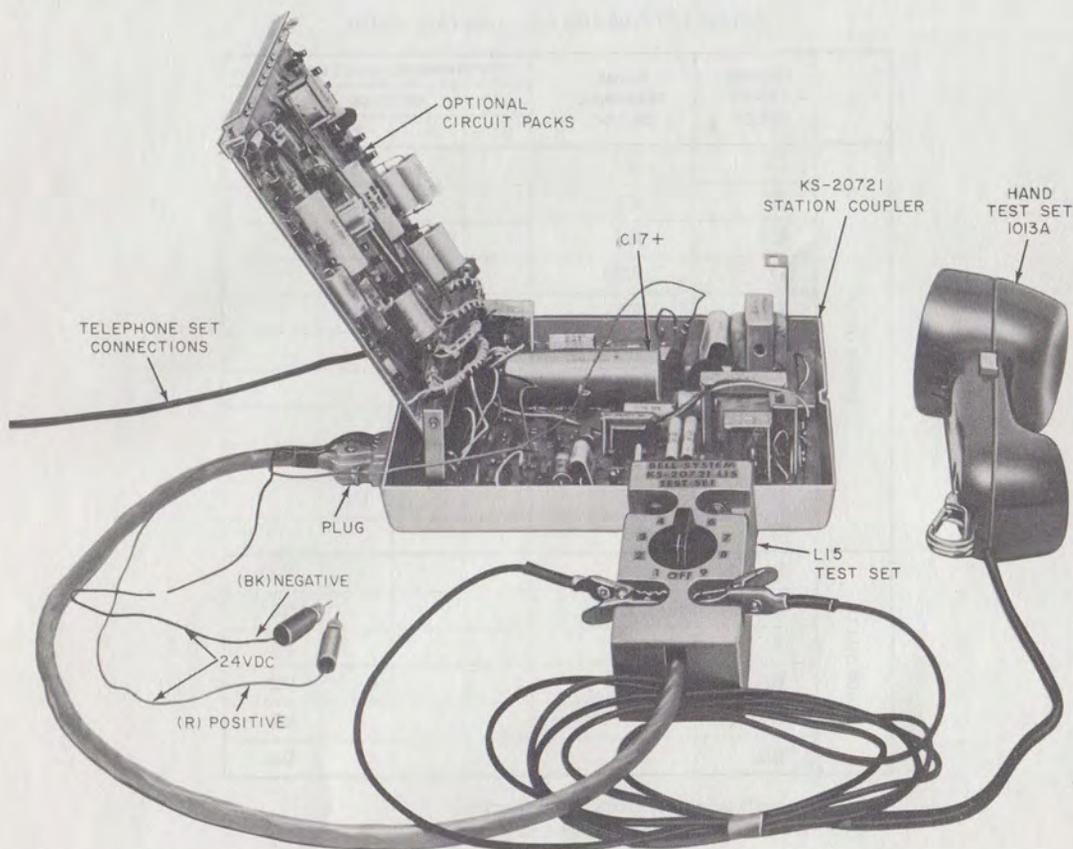

Fig. 5—KS-20721 Station Coupler with KS-20721, List 15 Test Set and 1013A Hand Test Set
- Set, Test, KS-20721, L15 (Fig. 5)
2.05 The KS-20721, List 15 test set plugs into the connector on the station coupler and is used with a 1013A hand test set (or equivalent) to test the operation of the coupler independent from the CPE (Fig. 5).
4.04 The List 15 test set (Fig. 5 and 7) used with the 1013A hand test set (or equivalent) and a connecting cable terminated in a plug for connection to the station coupler permits checking of the coupler independent of the CPE.
3	Connect a 1013A (or equivalent) hand test set to terminals provided on test set (Fig. 5).
6	Connect alligator clip on wire coming from the test set plug to the positive (+) terminal of capacitor C17 in the station coupler (Fig. 5).